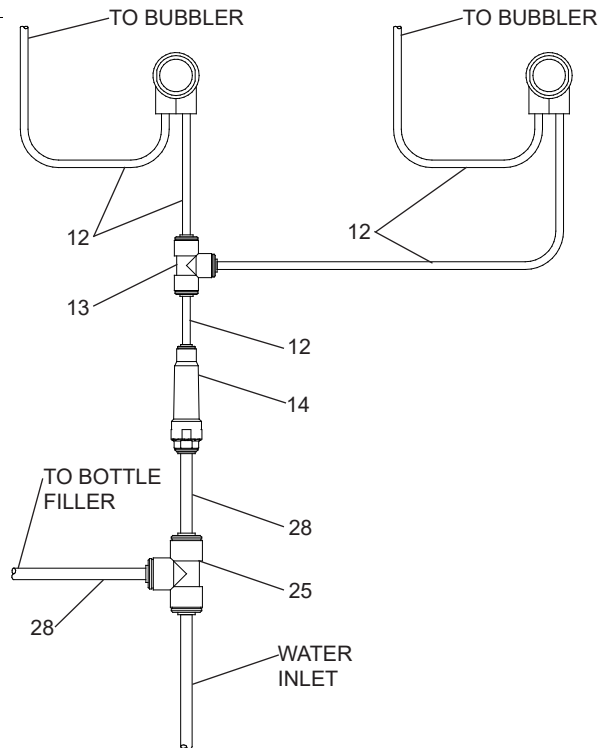

Figure 2 - HTHB-OVLSEBP-I Tube Routing
- 3a. **(For HTHB-OVLSEBP-I)** Install 3/8" tee, poly tubing and strainer per (Fig. 2).